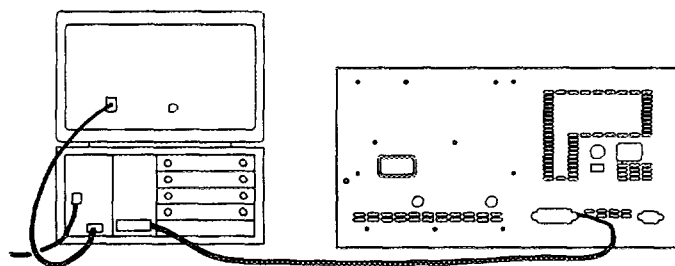

Figure 1-2. HP-IB Connections
1. Turn off the HP 35665A and the HP 9836, then connect them with the HP-IB cable as shown in figure 1-2.